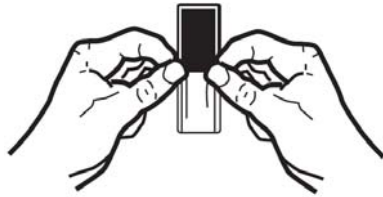

fig. 1
3. Grip both edges of bag at the center barrier (fig. 1) and wrinkle and flex the bag across the barrier. This will weaken the barrier.